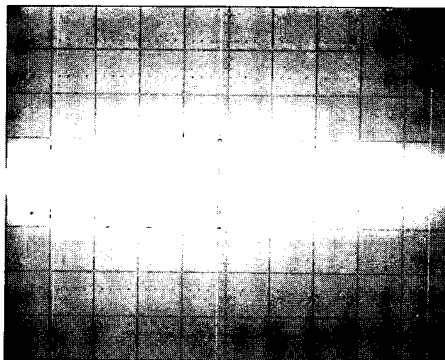

Figure 5-6. Waveform at A13TP1.
- g. Adjust "OFS-1" potentiometer A13R1 until dc level of displayed waveform is 0mV \pm 1mV. Refer to Figure 5-6 which shows well adjusted waveform.